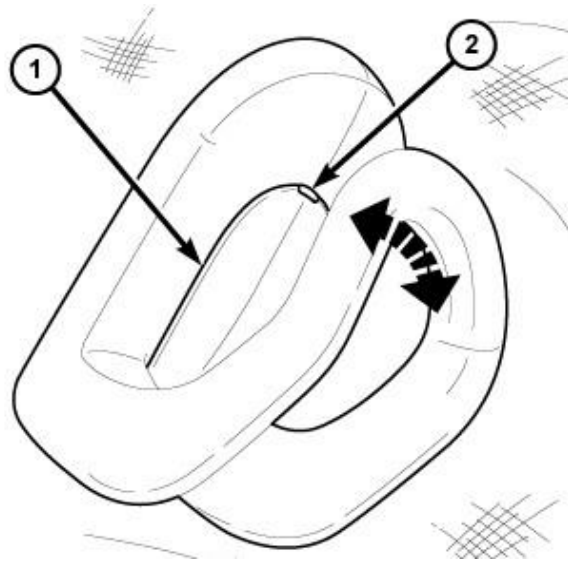

Figure 25 – Coat Hook
12. Using a small flat bladed tool, open the coat hook screw cover (2) then remove the screw and coat hook (Figure 25).